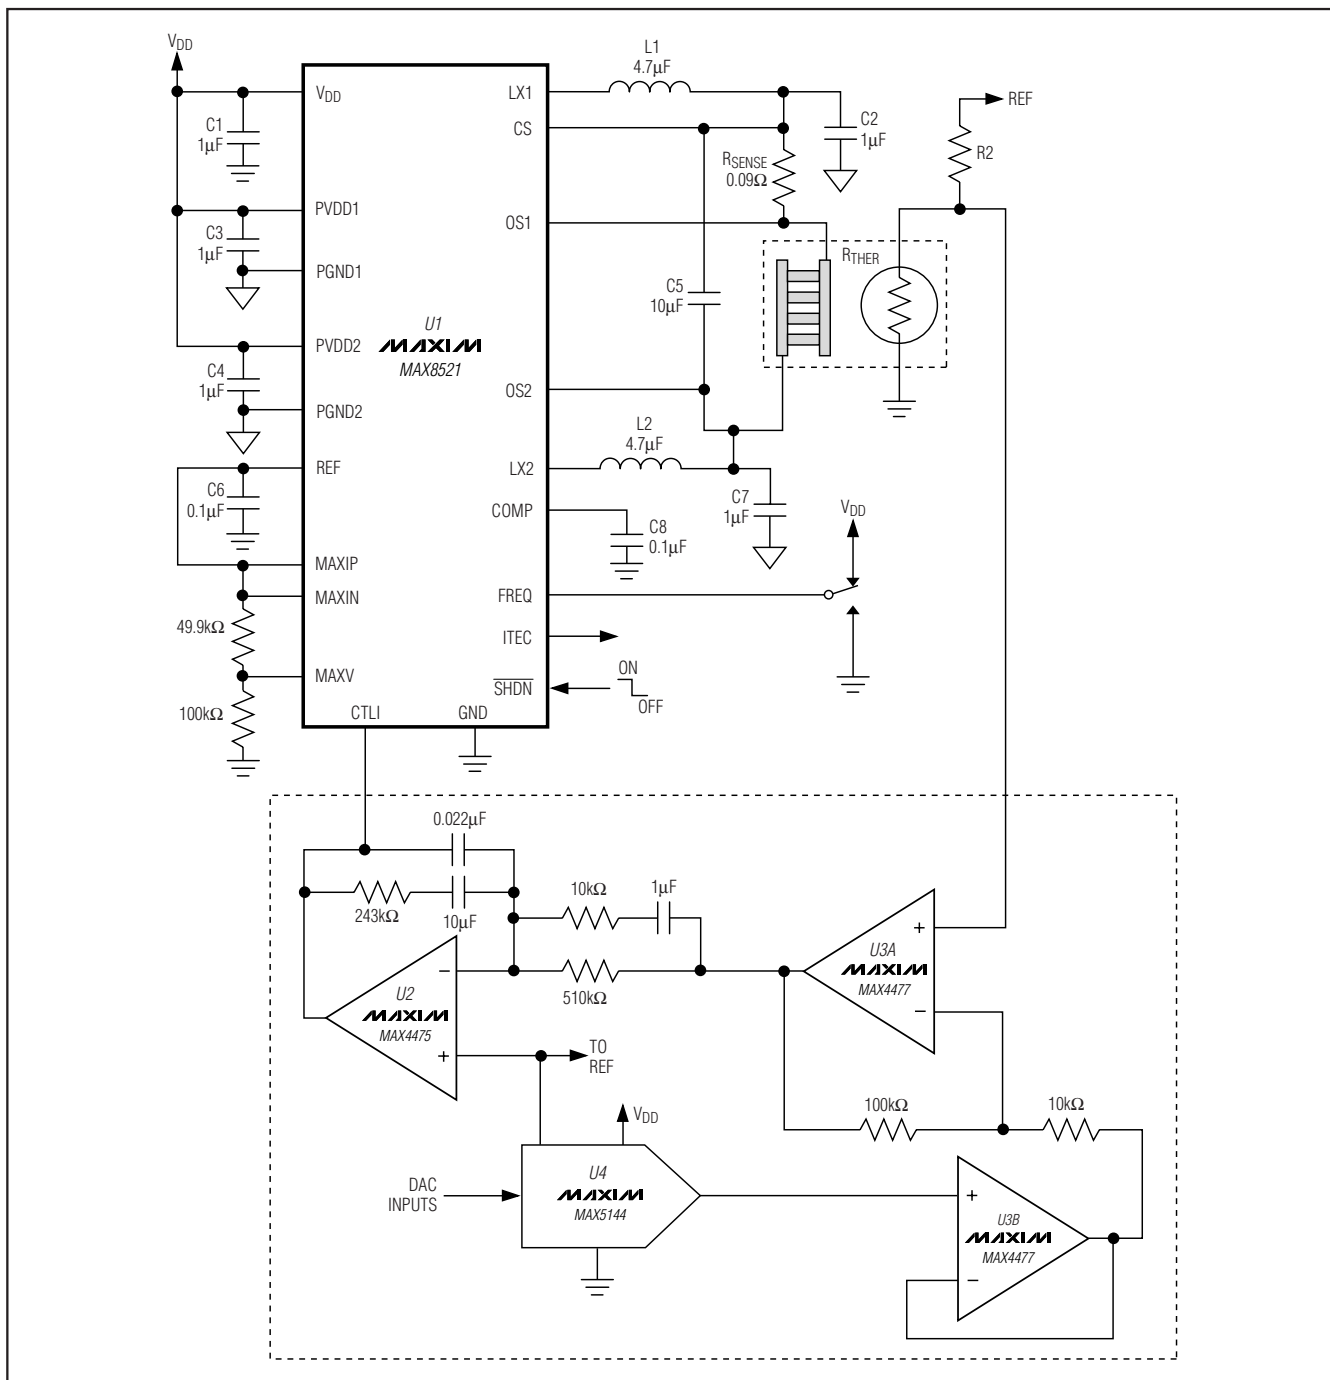

Figure 1. MAX8521 Typical Application Circuit
( $V_{DD} = 5V$ , circuit of Figure 1,  $T_A = +25^\circ C$  unless otherwise noted.)
(VDD = 5V, circuit of Figure 1, TA = +25°C unless otherwise noted.)
The MAX8520/MAX8521 TEC drivers consist of two switching buck regulators that operate together to directly control the TEC current. This configuration creates a differential voltage across the TEC, allowing bi-directional TEC current for controlled cooling and heating. Controlled cooling and heating allow accurate TEC temperature control to within 0.01°C. The voltage at CTLI directly sets the TEC current. An external thermal-control loop is typically used to drive CTLI. Figures 1 and 2 show examples of the thermal-control-loop circuit.
Table 1. TEC Connection for Figure 1
The MAX8520/MAX8521 include an on-chip voltage reference. The 1.50V reference is accurate to 1% over temperature. Bypass REF with 0.1μF to GND. REF can be used to bias an external thermistor for temperature sensing as shown in Figures 1 and 2.
The common-mode filter capacitors (C2 and C7 of Figure 1) are used as filter capacitors to ground for each output. The output ripple voltage depends on the capacitance, the ESR of these capacitors, and the inductor ripple current. Ceramic capacitors are recommended for their low ESR and impedance at high frequency.
The differential-mode filter capacitor ( $C_5$  in Figure 1) is used to bypass differential ripple current through the TEC as the result of unequal duty cycle of each output. This happens when the TEC current is not at zero. As TEC current increases from zero, both outputs move away from the 50% duty-cycle point complementarily. The common-mode ripple decreases, but the differential ripple does not cancel perfectly, and there will be a resulting differential ripple. The maximum value happens when one output is at 75% duty cycle and the other is at 25% duty cycle. At this operating point, the differential ripple is equal to 1/2 of the maximum common-mode ripple. The TEC ripple current determines the TEC performance, because the maximum temperature differential that can be created between the terminals of the TEC depends on the ratio of ripple current and DC current. The lower the ripple current, the closer to the ideal maximum. The differential-mode capacitor provides a low-impedance path for the ripple current to flow, so that the TEC ripple current is greatly reduced. The TEC ripple current then can be calculated as follows:
There are numerous ways to implement the thermal loop. Figures 1 and 2 show designs that employ precision op amps, along with a DAC or potentiometer to set the control temperature. The loop can also be implemented digitally, using a precision A/D to read the thermistor or other temperature sensor, a microcontroller to implement the control algorithm, and a DAC (or filtered-PWM signal) to send the appropriate signal to the MAX8520/MAX8521 CTLI input. Regardless of the form taken by the thermal-control circuitry, all designs are similar in that they read temperature, compare it to a set-point signal, and then send an error-correcting signal to the MAX8520/MAX8521 that moves the temperature in the appropriate direction.
6) To ensure high DC-loop gain and minimum loop error, keep the board layout adjacent to the negative input pin of the integrator (U2 in Figure1) clean and free of moisture. Any contamination or leakage current into this node can act to lower the DC gain of the integrator which can degrade the accuracy of the thermal loop. If space is available, it can also be helpful to surround the negative input node of the integrator with a grounded guard ring.